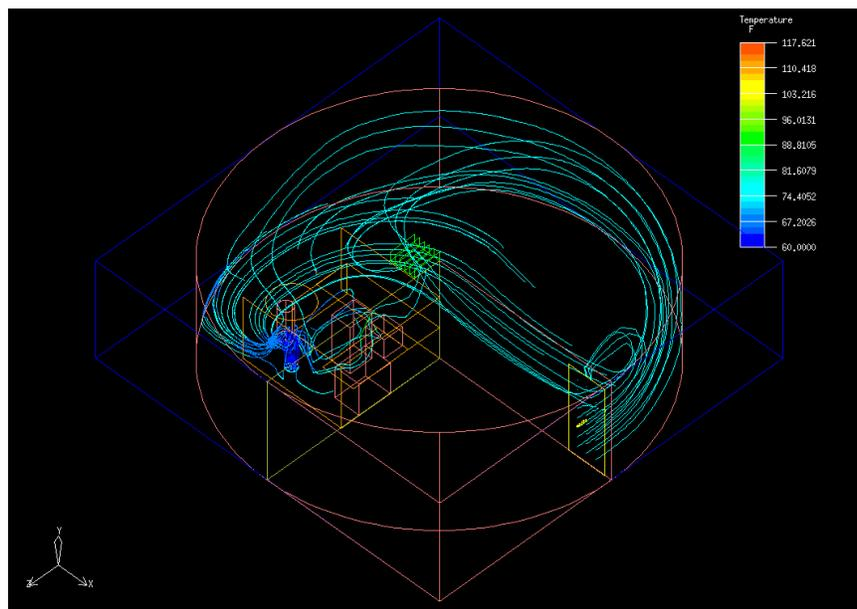

Figure 4.24: Particle Trace of Air Through the Room
*Figure 4.24 shows the path of the air particles emitted from the floor diffuser and flowing from the doorway.*